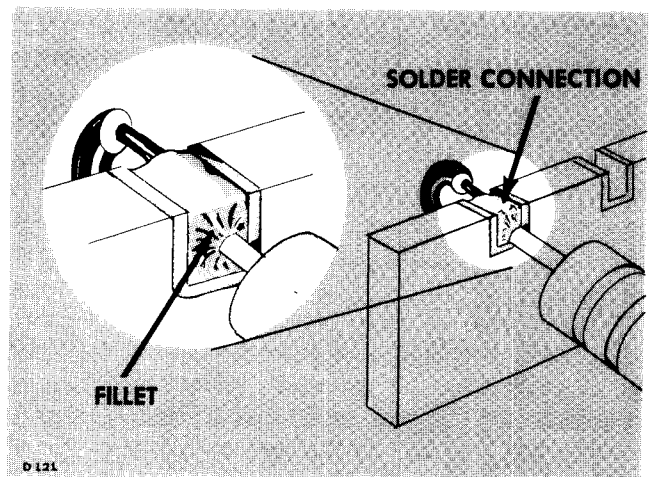
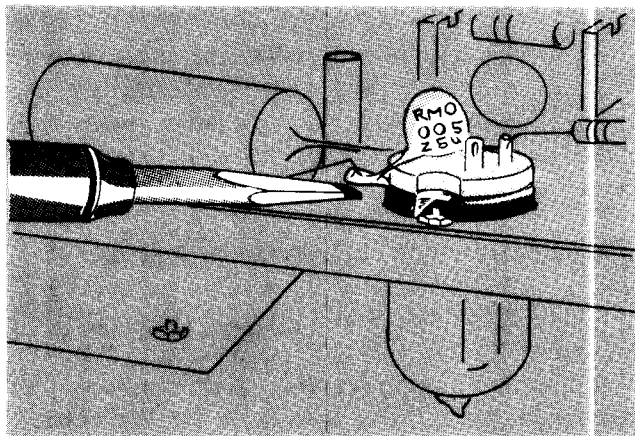

Fig. 4-3. A slight fillet of solder is formed around the wire when heat is applied correctly.
Fig. 4-4. Soldering to a terminal. Note the slight fillet of solder--exaggerated for clarity--formed around the wire.
6. Do not attempt to fill the notch on the strip with solder; instead, apply only enough solder to cover the wires adequately, and to form a slight fillet on the wire as shown in Fig. 4-4.
In soldering to metal terminals (for example, pins on a tube socket) a slightly different technique should be employed. Prepare the iron as outlined above, but tin with ordinary tin-lead solder. Apply the iron to the part to be soldered as shown in Fig. 4-3. Use only enough heat to allow the solder to flow freely along the wire so that a slight fillet will be formed as shown in Fig. 4-4.